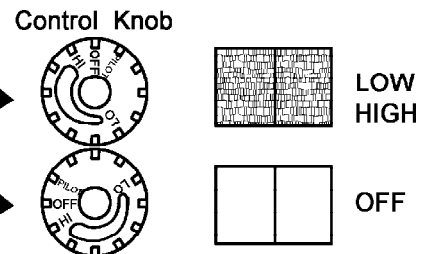

Figure 23 - Burner Patterns
8. Turn control knob counter clockwise ↻ to desired seating level. The main burner should light. Set control knob to any heat level between HI and LO. (see Figure 23)
9. Turn control knob counter clockwise ↻ to desired seating level. The main burner should light. Set control knob to any heat level between HI and LO. (see Figure 23)